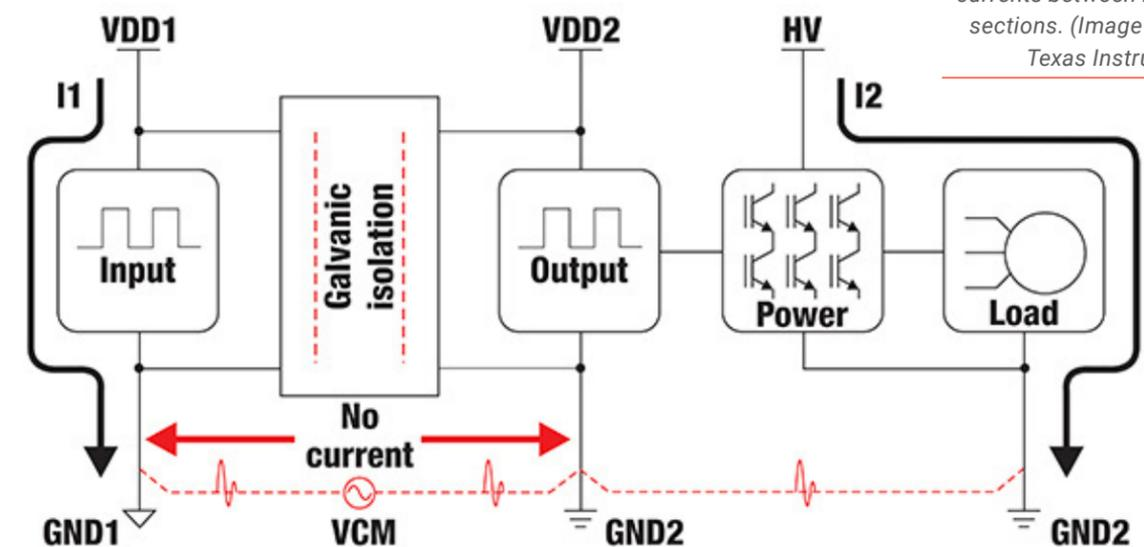

Figure 1: Galvanic isolation allows data and/or power flow, but no ground currents between isolated sections. (Image source: Texas Instruments)
Figure 1: This PULS CP-Series single-phase power supply mounts to DIN rail so common in industrial automation. Features include high immunity to transients and power surges as well as low electromagnetic emission, a DC-OK relay contact, 20% output power reserves (covered later in this article), and minimal inrush current surge. The specially coated power supply also executes active power factor correction or PFC functions. (Image source: EE World)
Galvanic isolation prevents current flow between functional sections of electronic or electrical systems, but supports the transmission of analog and digital signals and power between the sections (Figure 1). Galvanic isolation is useful for:
eFuse requirements for a given application are strongly related to the operating voltage and current of the system. For low voltage and low current systems up to about 5 volts direct current (V_{DC}) input and 2 amperes (A) of current, features such as OCP, OTP, UVLO, and inrush current suppression (dV/dt) for hot-swap and hot-plug events are commonly required. For applications that consume between 2 and 6 A, with input voltages up to 24 V_{DC} , OVP, current limiting/OCP, and "power good" signals are often needed. Current timers and monitors for system monitoring and OCP and RCB, are common in applications using 6 A and higher and voltages of 24 V_{DC} and higher (Figure 1).
Figure 1: eFuse feature sets are strongly correlated with the input voltage (horizontal axis) and input current (vertical axis) of the application. (Image source: Littelfuse)